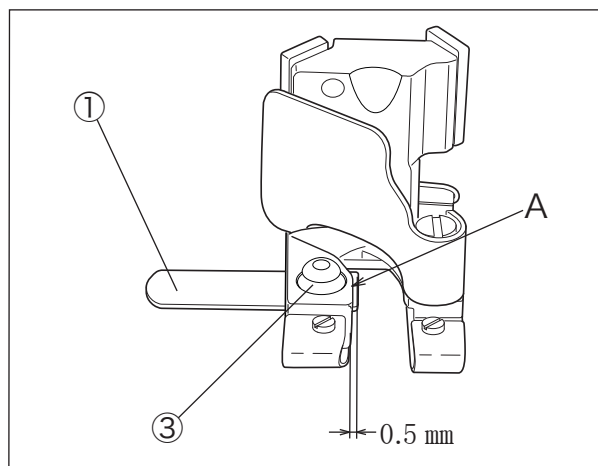

Fig. 5-19
For the standard position of the lower knife ①, make the distance between the lower knife ① tip and the part A of presser foot to 0.5 mm. (Fig. 5-19)
Loosen the screws ③ and ④ to adjust the lower and upper knives respectively. (Fig. 5-19 and 5-21)